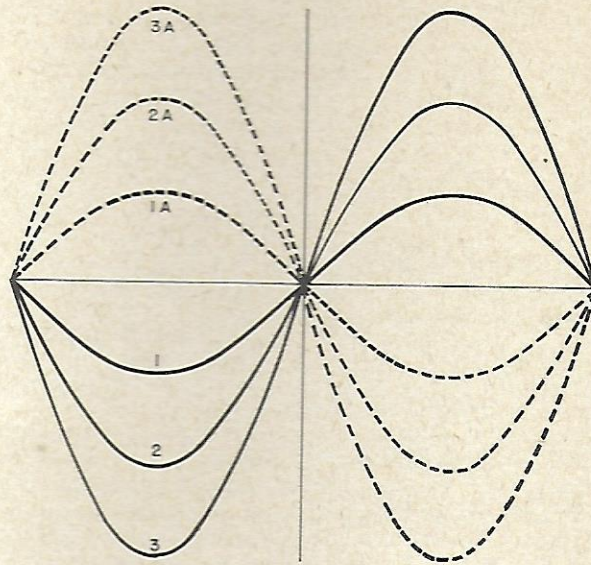

Figure 7.13—Sinusoidal Waveform
7.13 Sinusoidal Waveform—Wave 1 of Figure 7.13 illustrates a graphically perfect sine wave applied to the vertical axis and scanned by the linear sweep on the horizontal axis. Waves 2 and 3 portray the same sine wave but at amplitudes equal to 2 and 3 times the amplitude of wave 1. These amplitude comparisons are given in order to simplify recog-